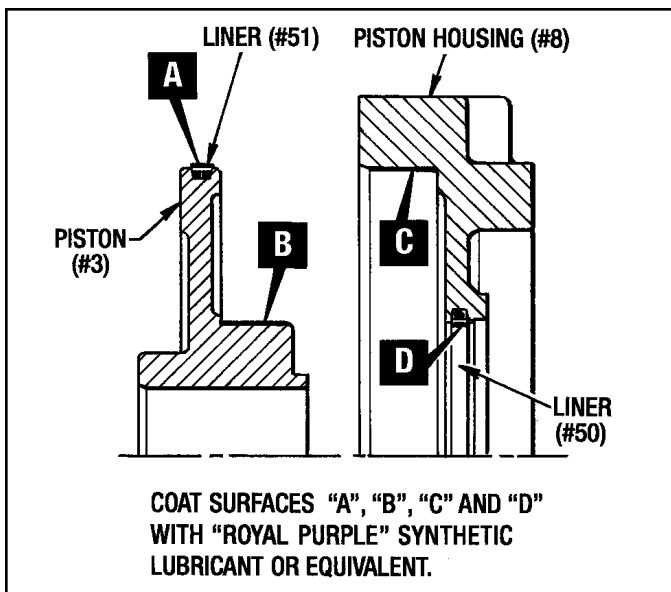

Figure 5.3 - Installing Piston (#3) into Piston Housing (#8)
2. Coat the surfaces indicated in Figure 5.3 with "Royal Purple" synthetic lubricant (or equivalent) and insert the Piston (#3) into the Piston Retainer (#8).
3. Attach the Thrust Plate (#5) with (3) Lockwashers (#73) and (3) Screws (#65) to the Piston (#3). **Torque to 25 Ft. Lbs.**